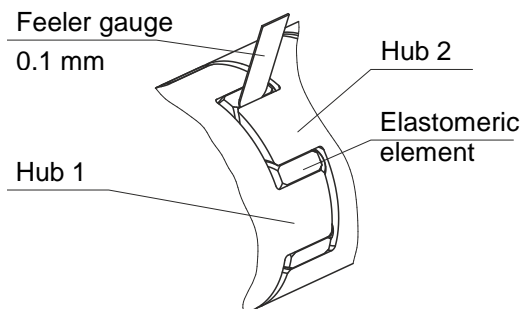

Fig. 14
No abraded particles are allowed on the elastomeric element (19), as the ROBA®-ES is a backlash-free coupling. The gap between two claws must be filled with the elastomer, with no room for backlash. You should not be able to insert a feeler gauge with a thickness of 0.1 mm (Fig. 14).